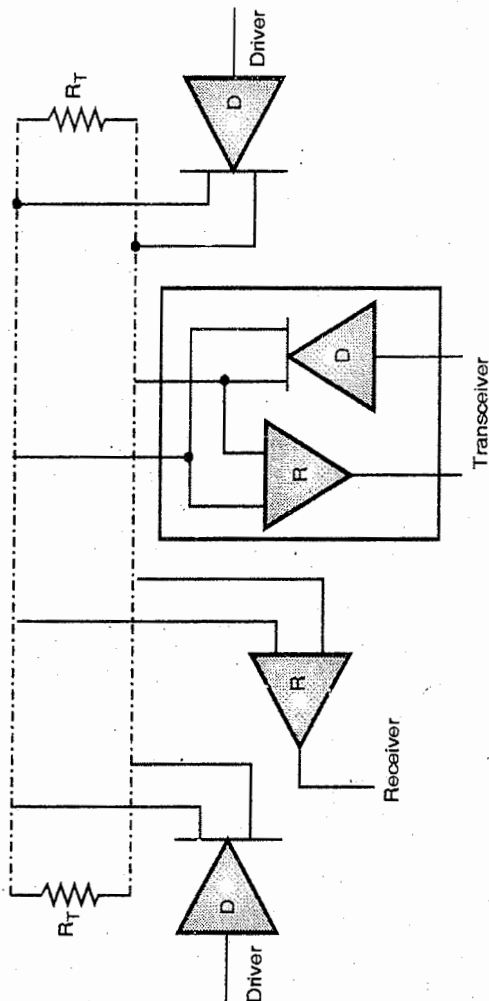

Fig. 12.4.1 : Multiple drivers and receivers interface using EIA RS485 standard
- Fig. 12.4.1 shows an application with multiple drivers and receivers.